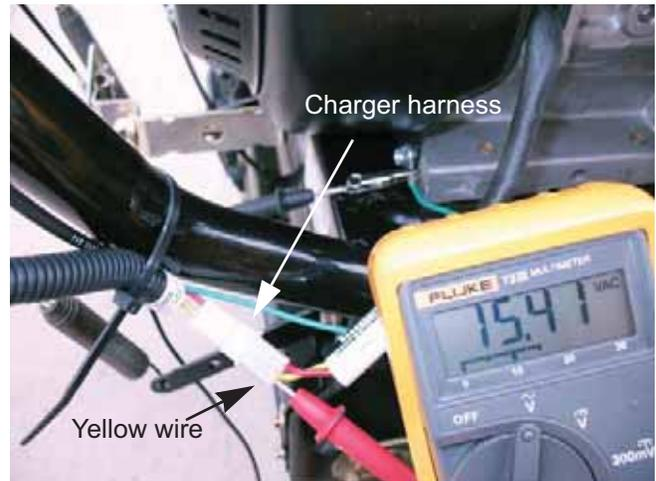

Figure 6.17
5. Back probe the yellow wire in the charger harness with the red (+) lead of the multimeter. See Figure 6.17.